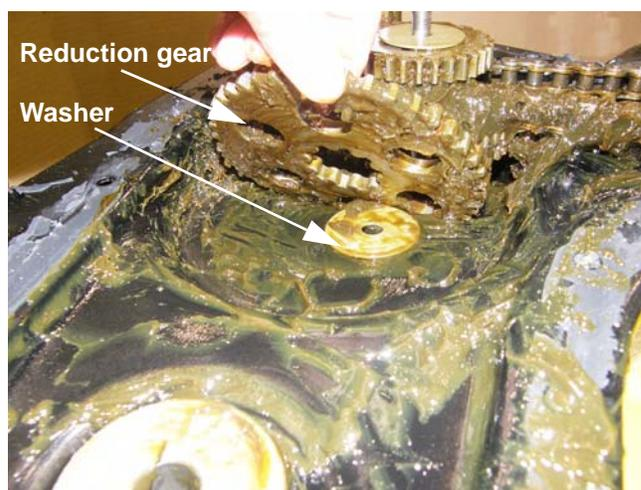

Figure 5.29
11. There is a washer beneath the wheel axle speed reduction gear. The I.D. of the washer is smaller than the shoulder on the shaft. The washer fits between the bottom lip of the shaft and the lower chain case housing. See Figure 5.29.